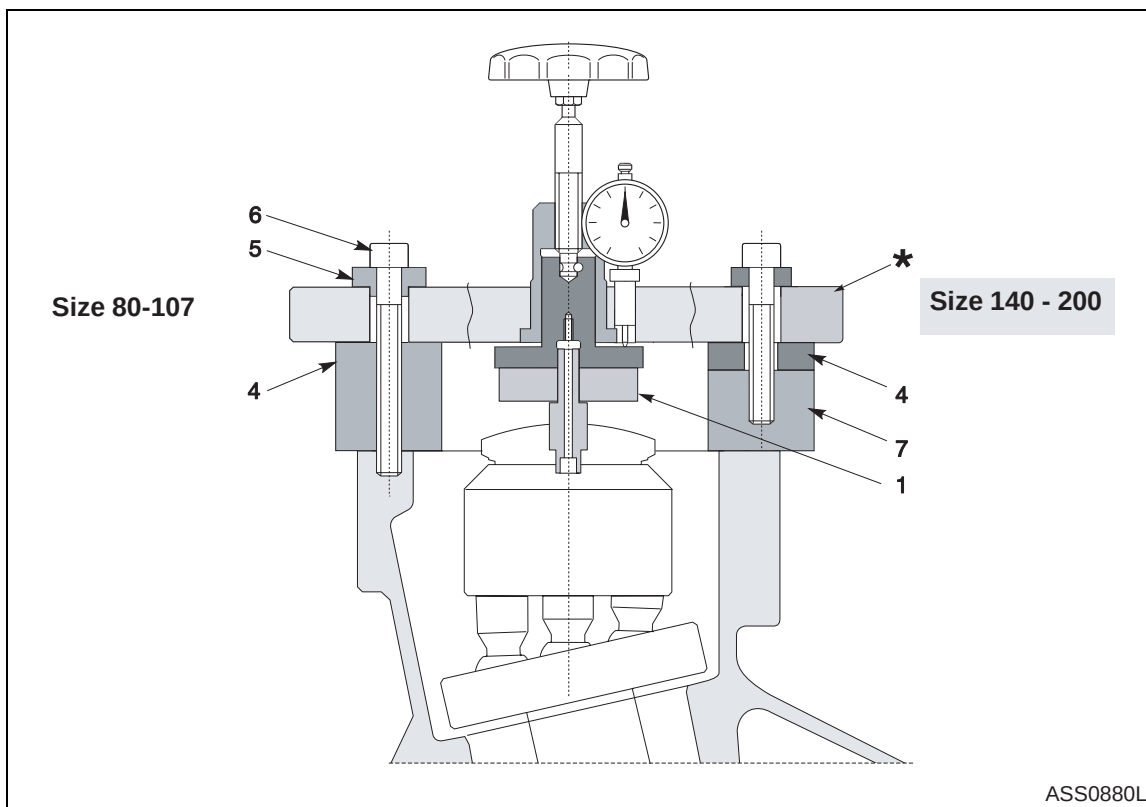

Figure 94
**NOTE:** Be sure that the correct mounting position is used. The numbers on the top of the measuring device (\*, Figure 94) refer to the piston diameter.